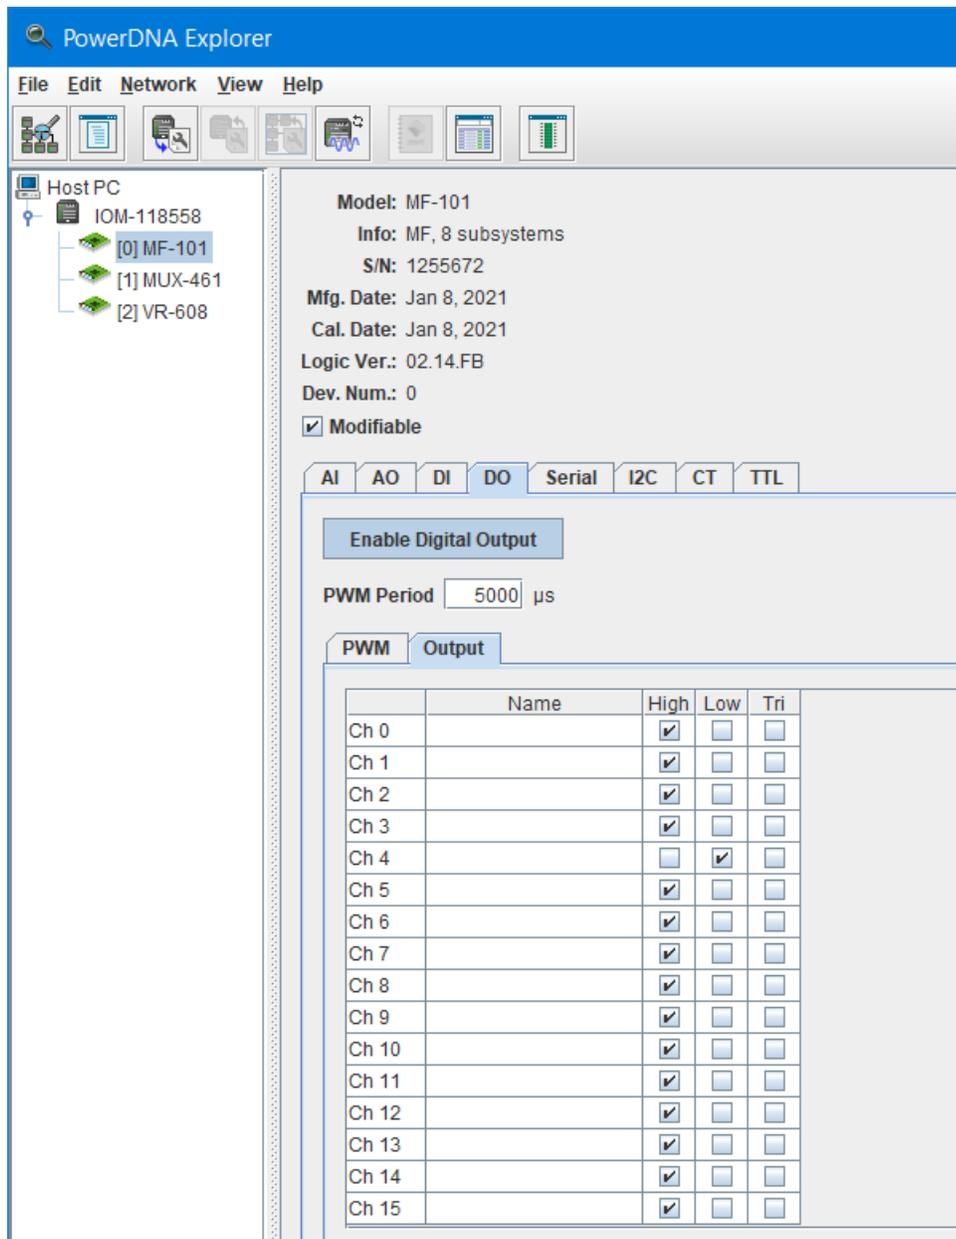

Figure 5-10 Power DNA Explorer DO Tab, Output Subtab
5.6.6.2 Write to Digital Output PWM The DO Output subtab (**Figure 5-10**) configures the following columns: